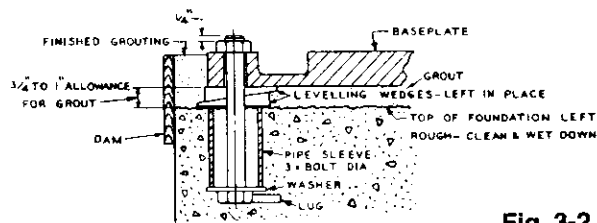

Fig. 3-2
A template should be made to position and hold the foundation bolts in place while pouring the concrete. Location and sizes of bolt holes are shown on the certified outline drawing supplied to the purchaser. Each bolt is installed in a pipe sleeve, the inside diameter of which should be three times the outline diameter of the bolt. The pipe sleeve allows for minor adjustments in bolt spacing after foundation is in place (Fig. 3-2). Two methods commonly used to secure and prevent bolts from turning are:
- a. A washer is placed between the bolt head and pipe sleeve with a lug welded to the bolt head (Fig. 3-2)
Stuff waste between foundation bolts and sleeves to prevent concrete from entering while foundation is being poured. Foundation bolts must be long enough to allow from $\frac{3}{4}$ " to 1" for grouting under the baseplate (Fig. 3-2). When pump is level, the bolts should extend $\frac{1}{4}$ " through the nuts. Leave top surface of foundations rough for adherence of grout.
2. Grouting — Build a board dam around the foundation to the desired height for finished grouting (See Fig. 3-2) A mixture of one part portland cement to two parts clean sand with just enough water to mix to a thick creamy consistency should be made for grout. Wet the underside of the baseplate and foundation top, then pour the grout through the holes in the baseplate. Thoroughly puddle the grout during pouring to prevent air pockets and hollow spots. After grout has set sufficiently, remove the board dam and finish off the grout as desired. When grout has hardened, usually in about 48 hours, pull up on foundation bolts.